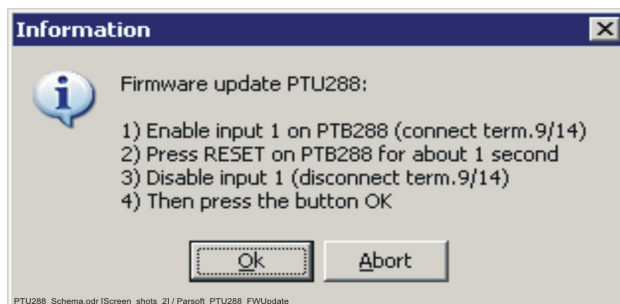

Fig. 22: Window {Information}, in which the procedure for starting the firmware update of the Drive Unit PTU288-1 is described
- ◆ An information window opens (see Fig. 22 below), in which the further procedure for transmitting the new firmware version is described.